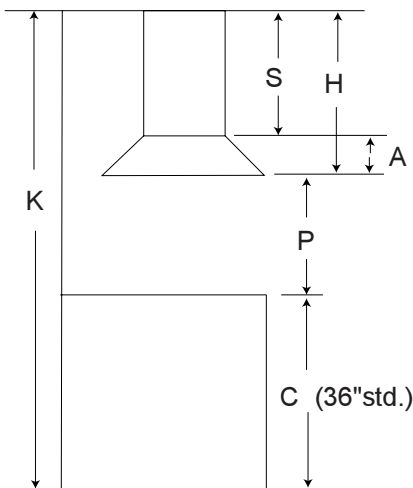

Figure 2
4. Hood installation height above cooktop is specified in Figure 2. Be sure that your hood model fits your installation.
Pre-Installations Calculations (see Figure 2)
1. a) Select a hood preference height P (see Figure 2) that is comfortable for the user not less than 30".
- b) Calculate Hood height your installation H (see Figure 2). $H = K - C - P$.
- d) Calculate Chimney structure height S (use formulas in Figure 2, and check dimensions of your hood). Save this calculation for use later in the installation.